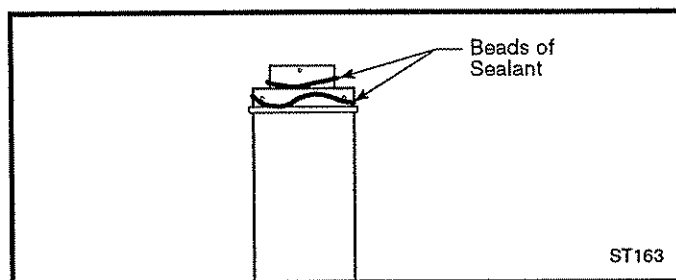

Fig. 32 Drill and seal the pipe ends.
5. Seal and install first the inner and then the outer straight pipe section(s), to the point of the elbow. Drill 3 holes through each joint and secure with 1/4-20 sheet metal screws. (Fig. 32)